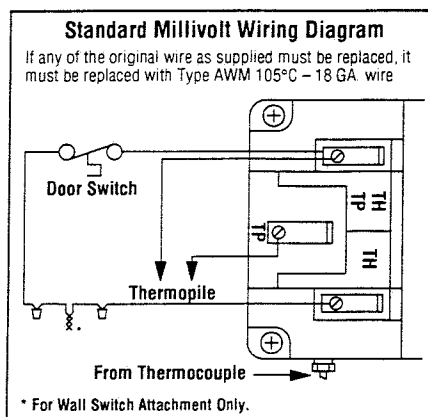
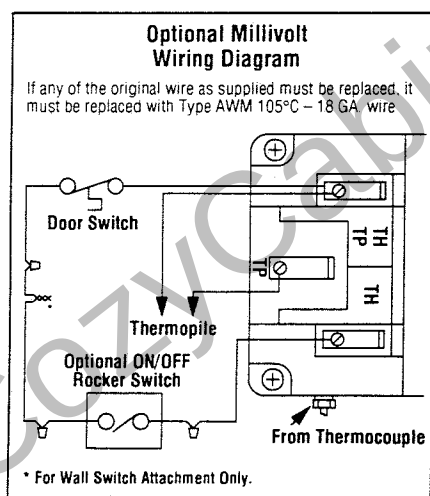

Figure 42
Figure 43
Step 6. Installing the Optional Remote Wall Switch – The standard millivolt system comes from the factory wired as shown in Figure 42. Select a convenient location for the remote wall switch and connect the wiring to the appliance (Figure 43)